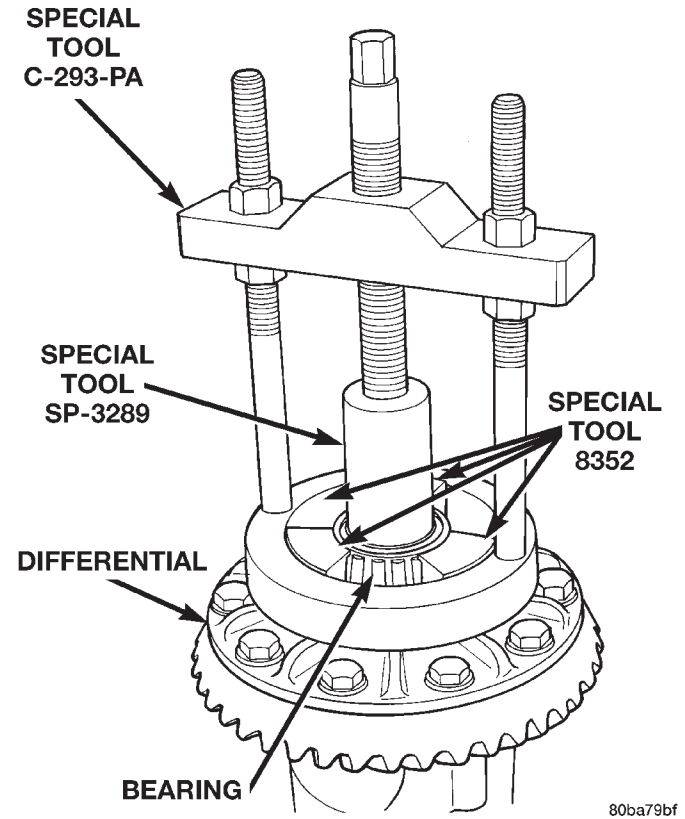

Fig. 30 Differential Bearing Removal
- (1) Remove differential case from axle housing.
(2) Remove the bearings from the differential case with Puller/Press C-293-PA, Adapter Blocks 8352, and Plug SP-3289 (Fig. 30).